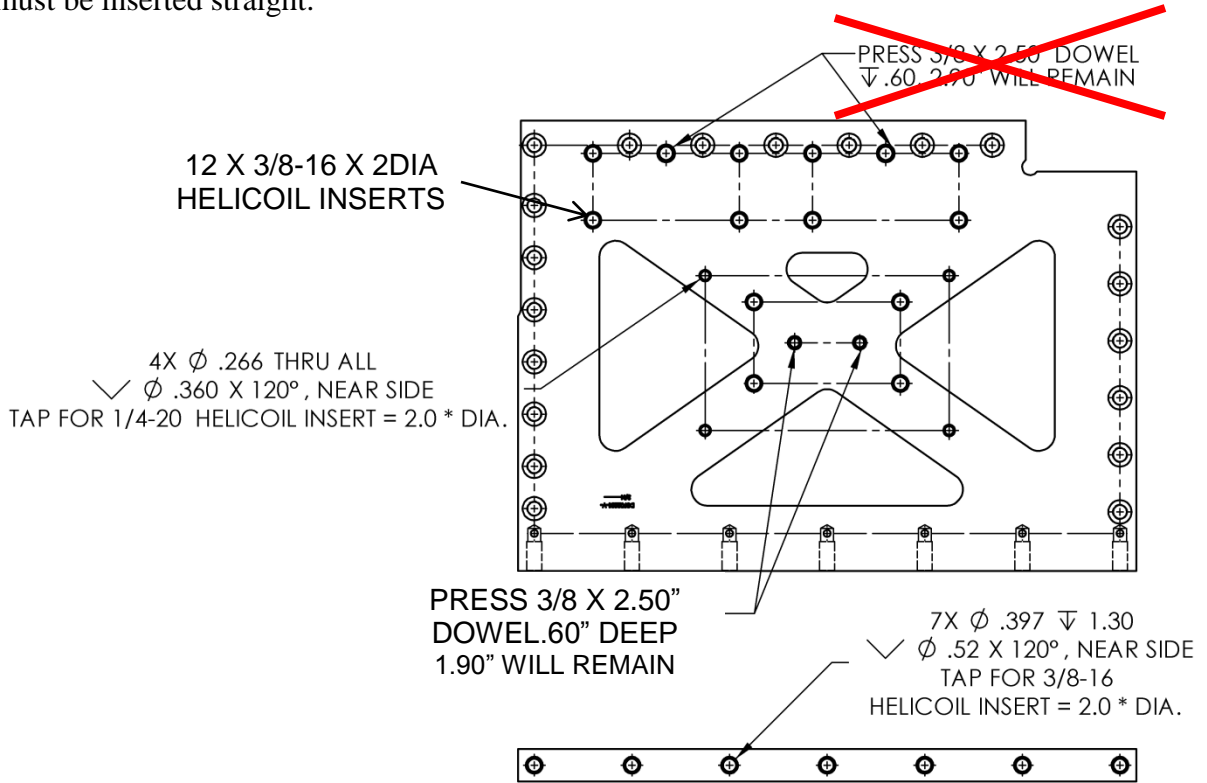

Figure 30
1. Apply Helicoils and dowels as shown Figure 30. Note press depth of dowel pins and must be inserted straight.